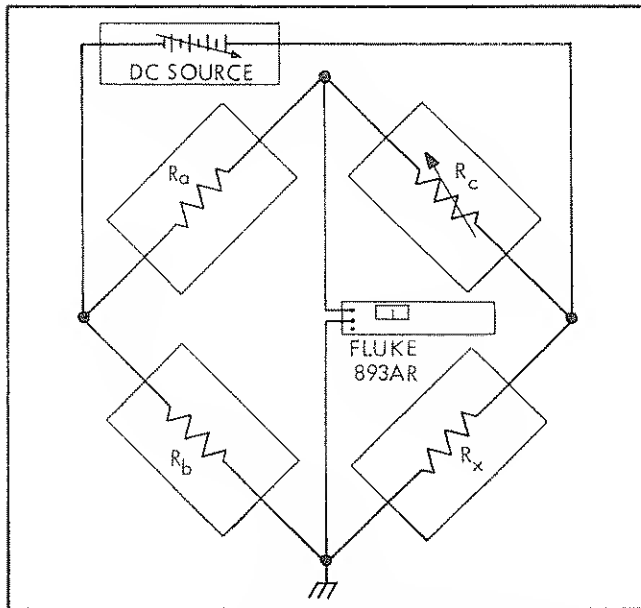

Figure 2-5. BRIDGE DETECTOR - FLOATING SUPPLY
2-38. The Model 893, because of its high input impedance on the dc differential mode, can be used to monitor small voltage differences in bridge circuits, potentiometers, and other measuring devices. In most of these applications, the circuits are adjusted for a zero deflection or null on the Model 893. Equipment connections for two types of null detector configurations are illustrated in Figure 2-5 and 2-6. To operate the instrument as a null detector, perform the Preliminary Operating Procedures described in paragraphs 2-9 and 2-10, and proceed as follows:
- Select the desired equipment applications illustrated in Figure 2-5 and 2-6 and make the appropriate connections.